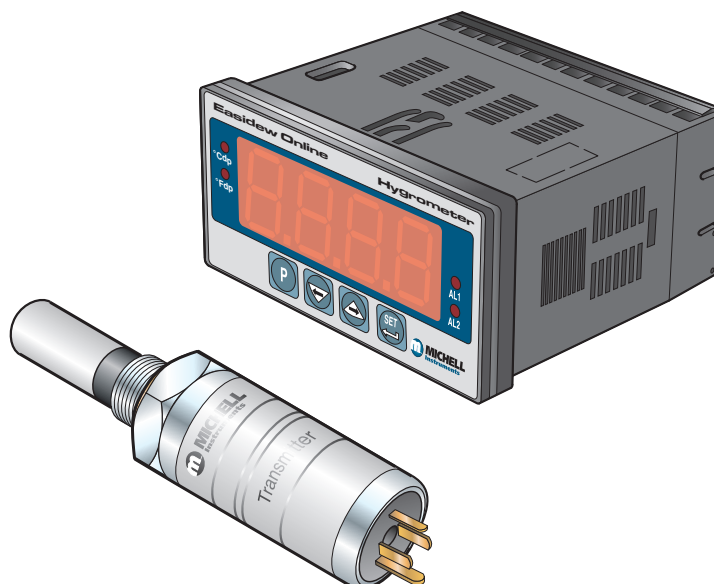

Figure 1      *Easidew Online Monitor and Transmitter*
*Figure 1* shows the monitor and the transmitter.